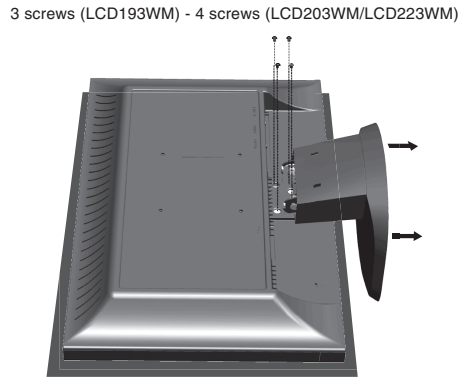

Figure R.2
- Remove the 3 screws (LCD193WM) or the 4 screws (LCD203WM/LCD223WM) connecting the monitor to the stand and remove the stand as indicated (**Figure R.2**).